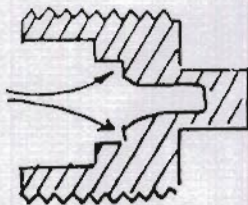

FIGURE 2 - Pipe Plug
- 5) Undercut 1-1/16" by 3/8" deep in the pipe plug (figure 2). This is so aluminum washer is free to fall open under vacuum. I used a wood bit turned by hand which cut well into the plastic.